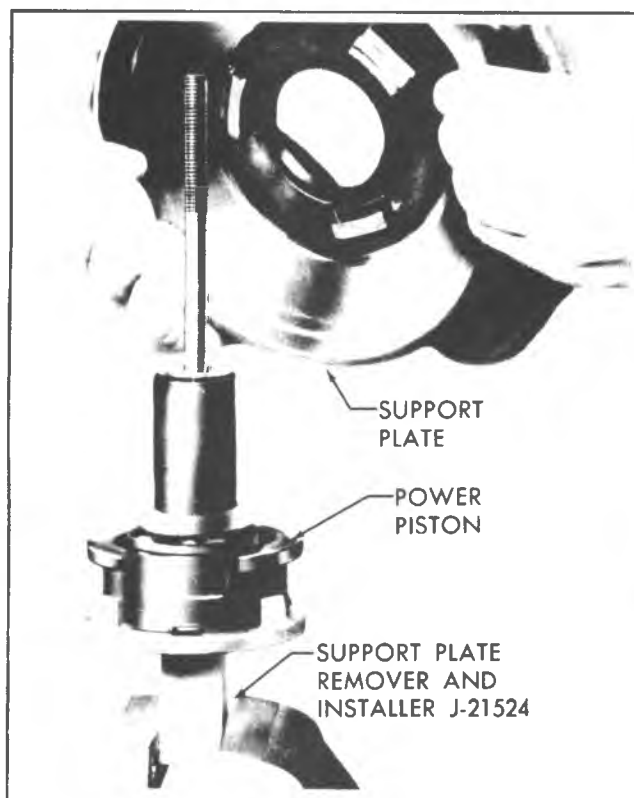

Fig. 5-8C—Removing Support Plate
7. Press down on support plate and rotate counter-clockwise until support plate separates from power piston (fig. 5-8C).